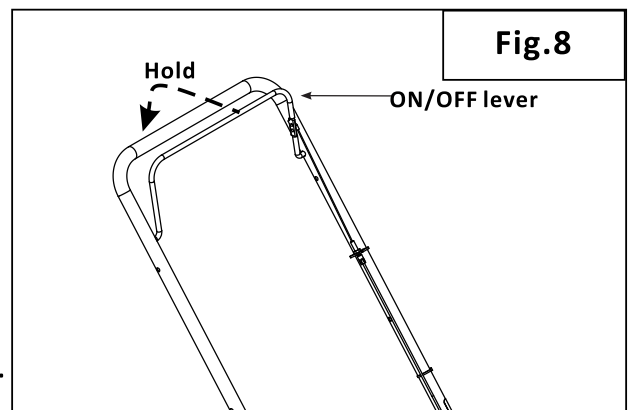

Fig.8
2. Hold the ON/OFF lever closed all the time, Before pulling the recoil starter handle. (Fig.8).